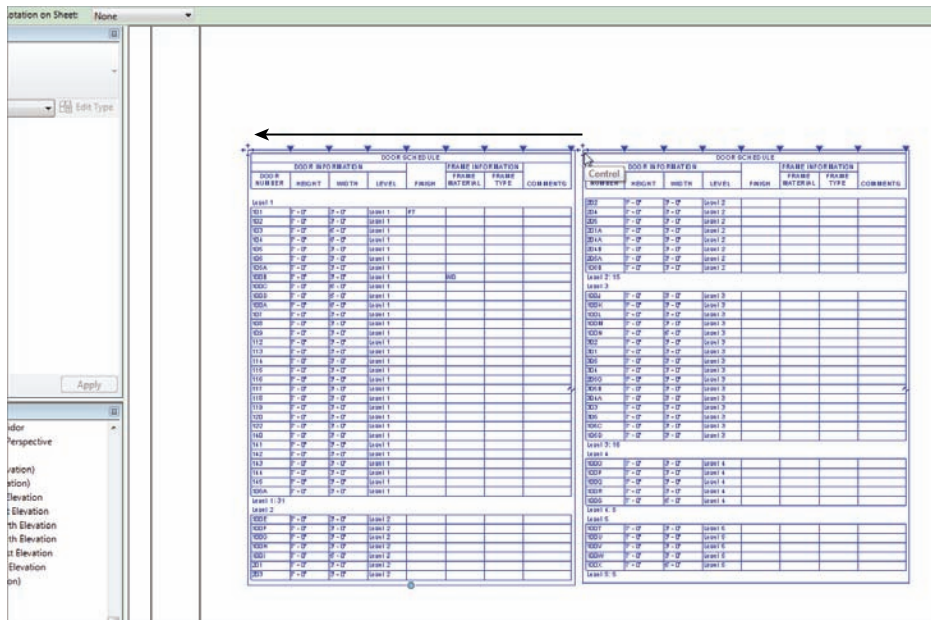

FIGURE 11.21 You can rotate the schedule on the sheet, and you can also join the columns back together if you need to.
On the Modify | Schedule Graphics tab, there is a Rotation On Sheet menu on the Options bar, as shown at the upper left in Figure 11.21. You don't need to change the rotation—just note that it's there.
2. Also notice the blue move grips at the upper-left corners of the schedules. If you pick one and drag the column back over the top of the other, the columns automatically join back together (see Figure 11.21).